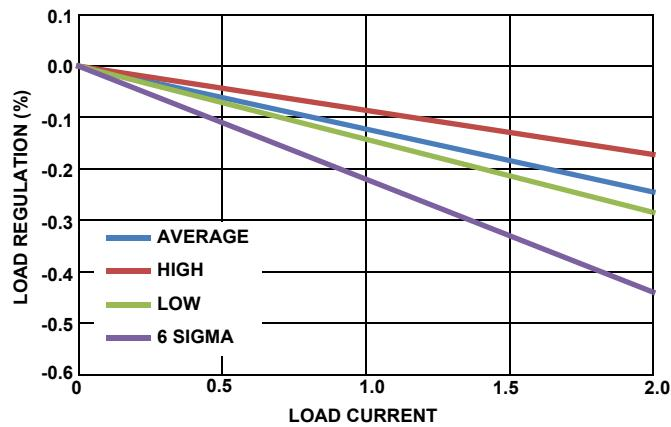

FIGURE 12. LOAD REGULATION, $T_A = +105^\circ\text{C}$, $2.7V_{IN}$, $0.6V_{OUT}$, 1MHz
- Not tested in production. Characterized using evaluation board. Refer to Figures 12 through 14 load regulation diagrams. $+105^{\circ}\text{C}$ T_A represents near worst case operating point.